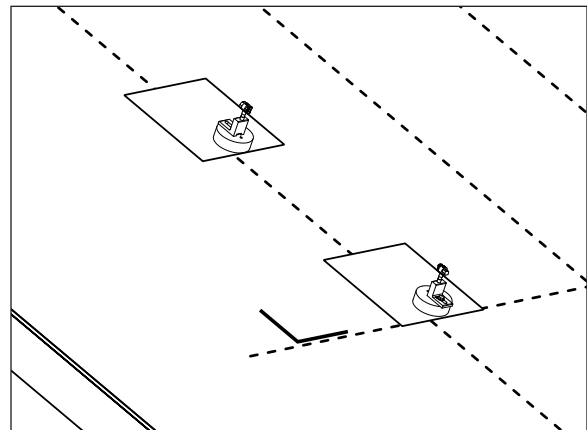

Figure 5.4B
All measurements are from the center of the accessory roof attachment hardware that will attach to the center of the Leveling Foot slot. The measurement between Row 1 and Row 2 requires an additional three (3) inches to account for the fact that the leveling feet face down roof on the first row and up roof on all other rows (Figure 5.4B)